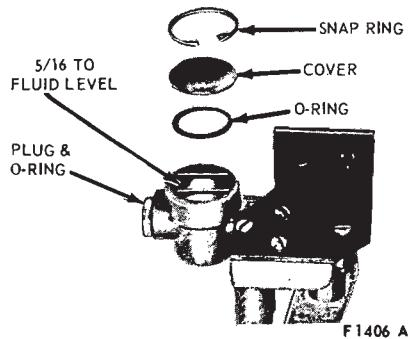

FIG. 4—Replacing Silicone Fluid
2. Position the valve with the delay plug on top. Remove the delay plug and drain the silicone fluid from the chamber. Remove the O-ring from the chamber (Fig. 4), and discard the O-ring.